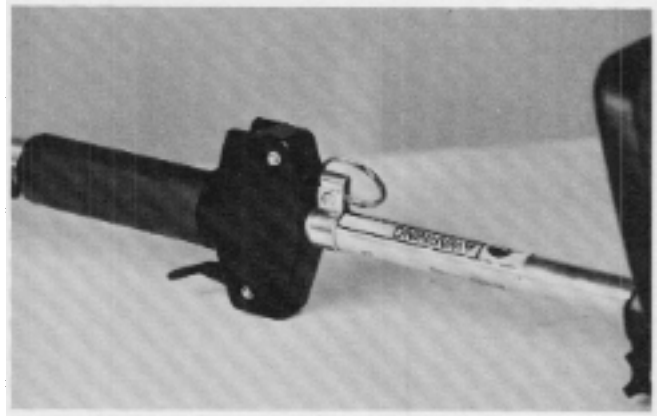

Figure 118
2. Mount the clamp and ring assembly onto the tube just below the control. Secure with the nut and machine screw. See Fig. 118.